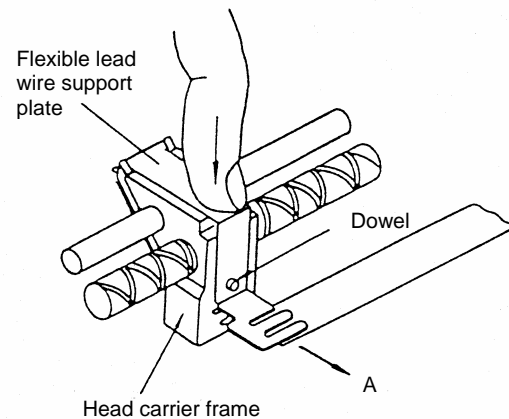

Figure 8-13 Pulling out the Flexible Cable Plate
- (3) Pull out the flexible cable plate in the direction shown by arrow A holding the edge of the plate with a finger, then disengage the plate from the dowel of the head carrier (see figure 8-13).